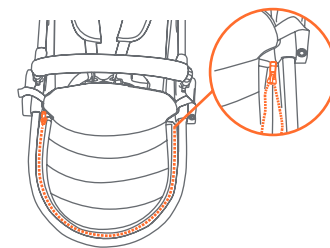
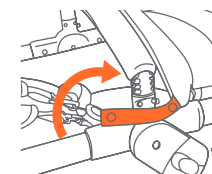

Fig. 5a
Fig. 5b
- 5) • Zip the Boot to the frame (Fig. 5a). Wrap the straps around the Bumper Bar and snap the strap buttons closed (Fig. 5b).